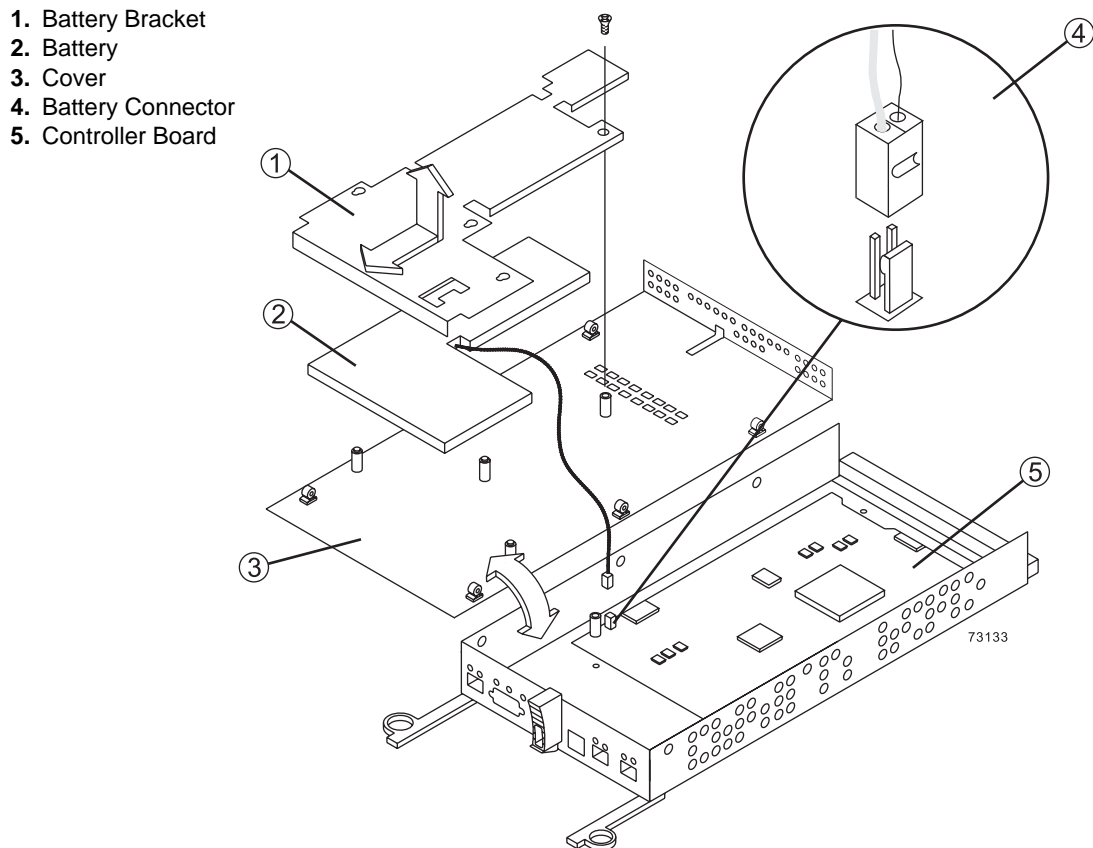

Figure 4-4 Replacing the Controller Battery
- b** Remove the single screw securing the battery bracket, slide the bracket sideways to clear the lugs, and lift the bracket up. Figure 4-4 on page 4-5 shows the bracket in relation to the controller.
- a Connect the battery harness on the replacement battery to the connector on the controller board in the new controller. Figure 4-4 illustrates this connection.